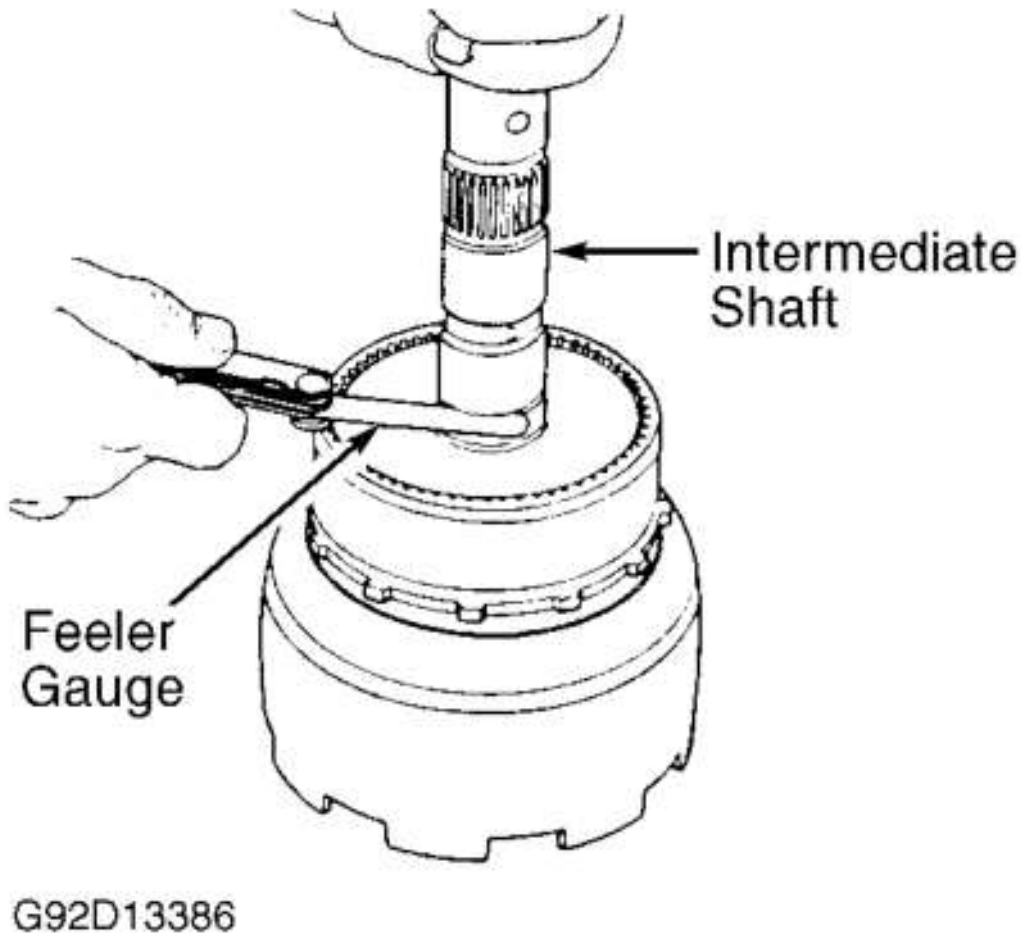

Fig. 27: Measuring Planetary Gear Train End Play
13. Using feeler gauge, measure planetary gear train end play. End play is measured between shoulder on intermediate shaft and end of rear annulus gear support. See **Fig. 27**.